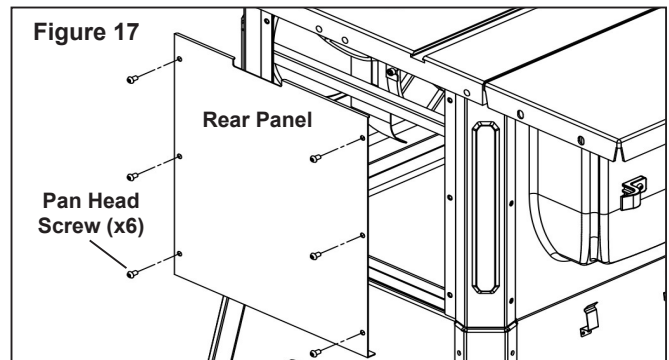
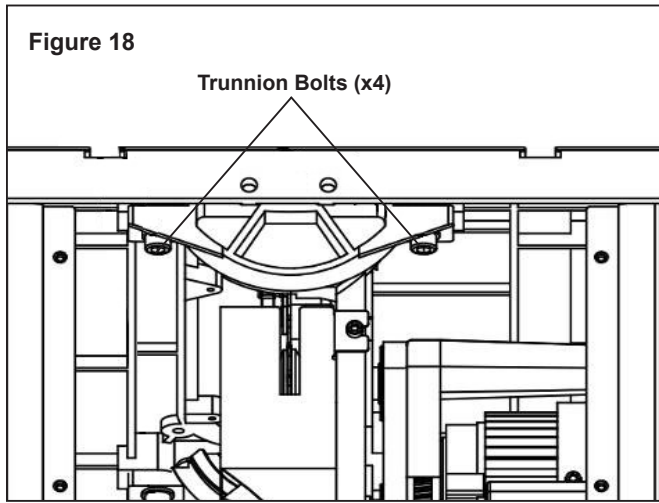

Figure 17
Figure 18
- If an adjustment is necessary, proceed as follows: Loosen and remove the six socket pan head screws and the rear panel (see Figure 17). Loosen the four hex head bolts on the trunnion (see Figure 18) and shift trunnions until a position is found where the saw blade is parallel to the miter gauge slots.